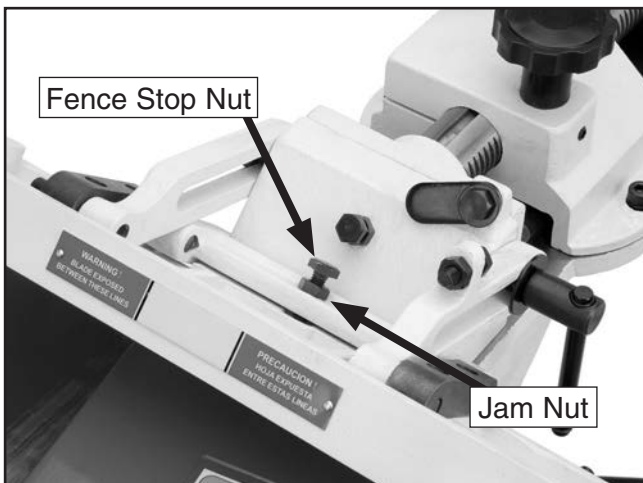

Figure 73. 45° inward fence stop jam nut.
2. Loosen the jam nut shown in **Figure 73**.